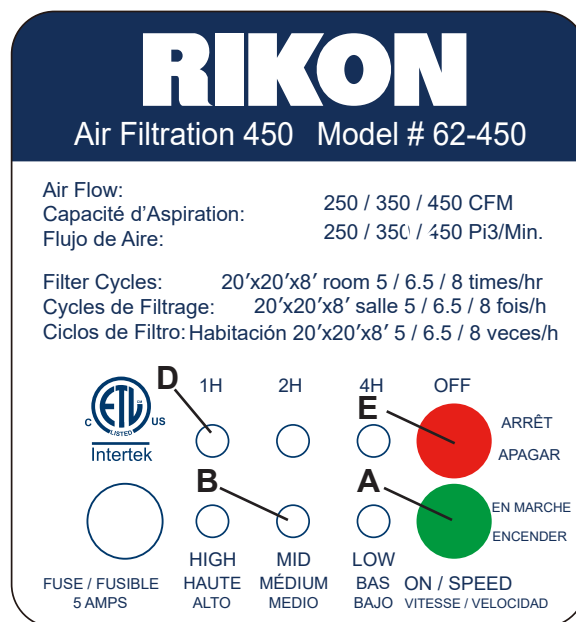
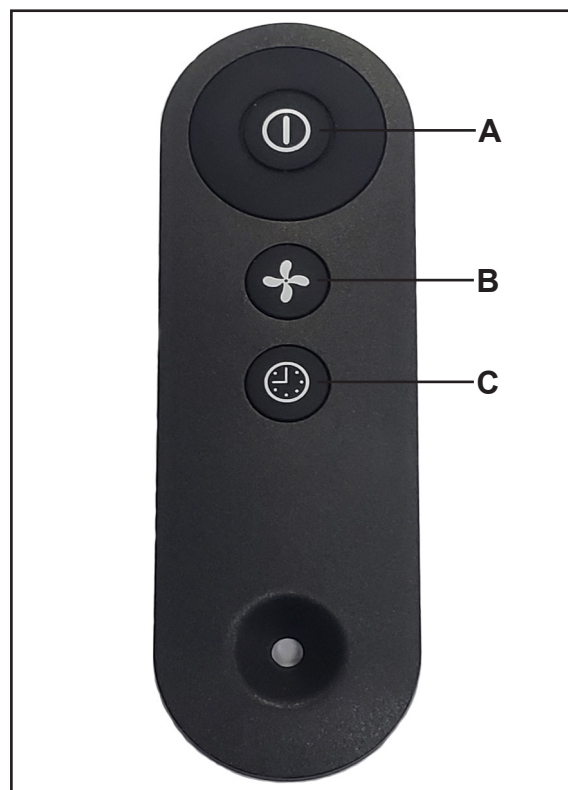

Fig.08
Fig.09
Turn on the air filter and speed setting (Fig.07 and Fig.08)
Set the timer (Fig.08 and Fig.09)
1. Press the TIME button (C) on the remote control (Fig.09) to start the timer.
2. Press the TIME button (C) on the remote control again to set the length of operation. The LEDs (D-Fig.08) on the control panel indicate the amount of time selected - 1 hour, 2 hours, 4 hours. Press a fourth time to clear the timer.
To turn off the Air Filter, press the OFF button (E-Fig.08) on the control panel or (A-Fig.09) on the remote control.
Remote Control (Fig.09)
The air filtration system can also be operated with the supplied infrared remote control. The infrared receiver is located on the main control panel. The remote control has the same functions as the main control panel above in Fig.08. However; the timer can be set ONLY with the remote control. Fig.09, (C).